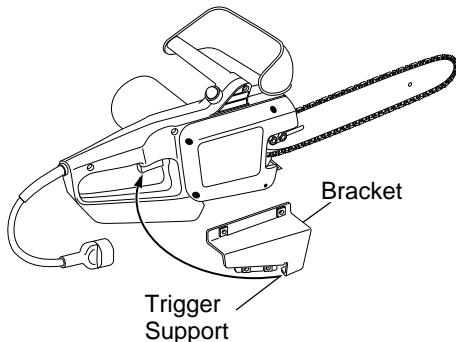

Figure 5 - Bracket with Trigger Support
1. Slip handle bracket over chain saw handle from the right side (see Figure 5). *Note:* The trigger must be depressed before the bracket will go onto the handle.